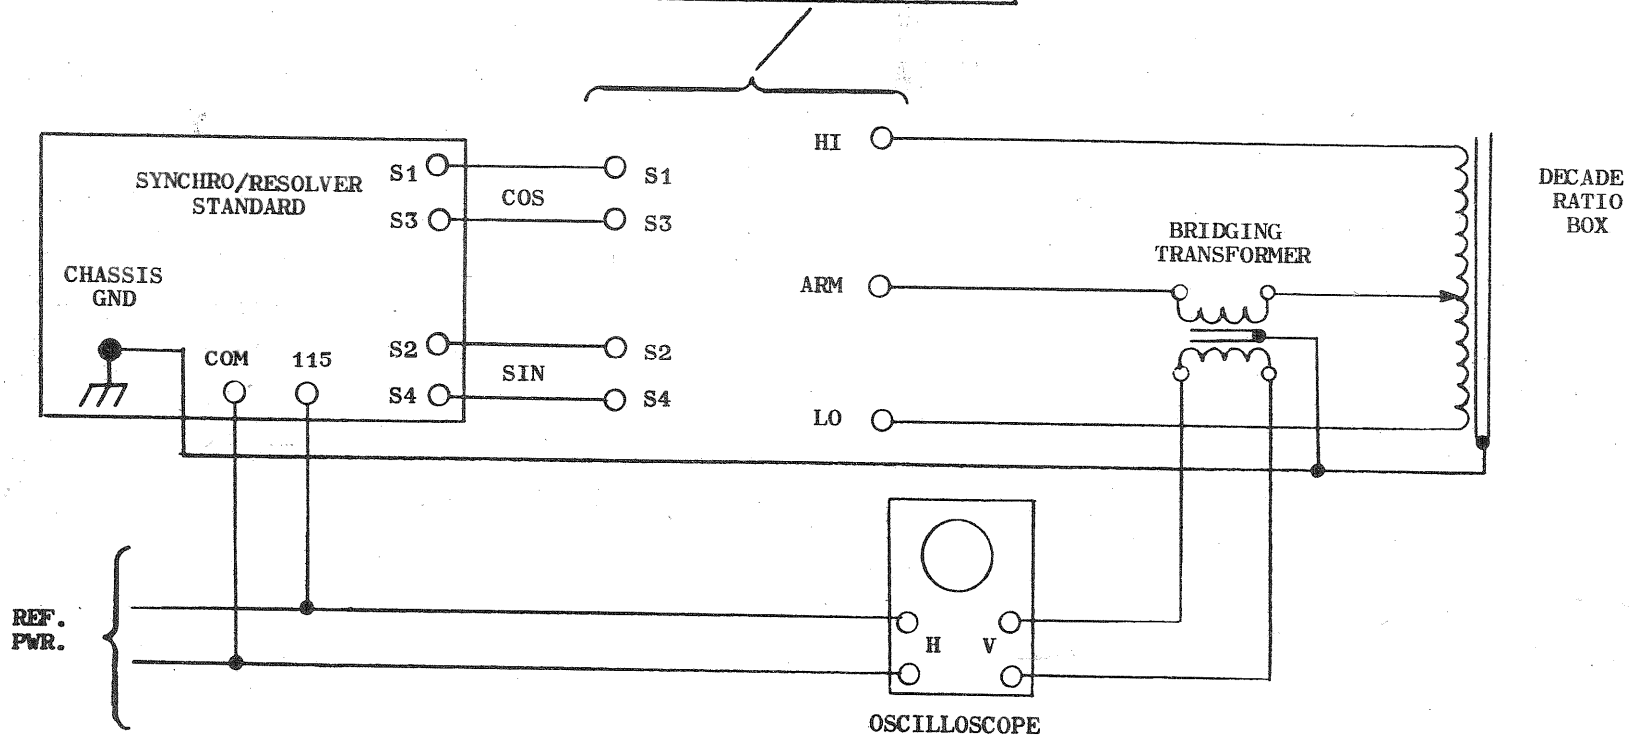

Figure 5-1. Resolver Mode Test Setup
5-14. Test connections for performing the calibration test are changed at 45-degree intervals for resolver tests and 60-degree intervals for synchro tests. These interconnections are required to maintain test voltage ratios at less than unity. The interconnections are given in tables in the test setup diagrams, figures 5-1 and 5-2, respectively.
2. Connect standard and test equipment as shown in figure 5-1.